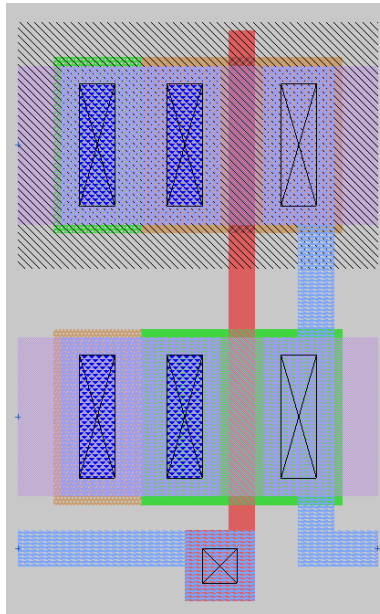

Figure 8: Top level image of layout for an inverter
First, I built the inverter. The in-class tutorial provided instructions on how to build this component. As shown in figure 8, there is a pMOS transistor on top that is connected to an nMOS on the bottom. There is only one logical input, A, which is inputted through a local interconnect that then is connected to a poly fill that runs through both transistors. The pMOS transistors also takes in a positive voltage input (VP) while the nMOS transistor drains to ground (VN). The output of the inverter is a local interconnect that connects the pMOS to the cmos.
The NAND gate has 2 logical inputs, A and B, which are structure the same as the inverter layout shown in figure 8. It also features two pMOS transistors that share a drain and a source but a different gate, making them parallel. The pMOS output flows into an nMOS transistor that is in series with another nMOS transistor.